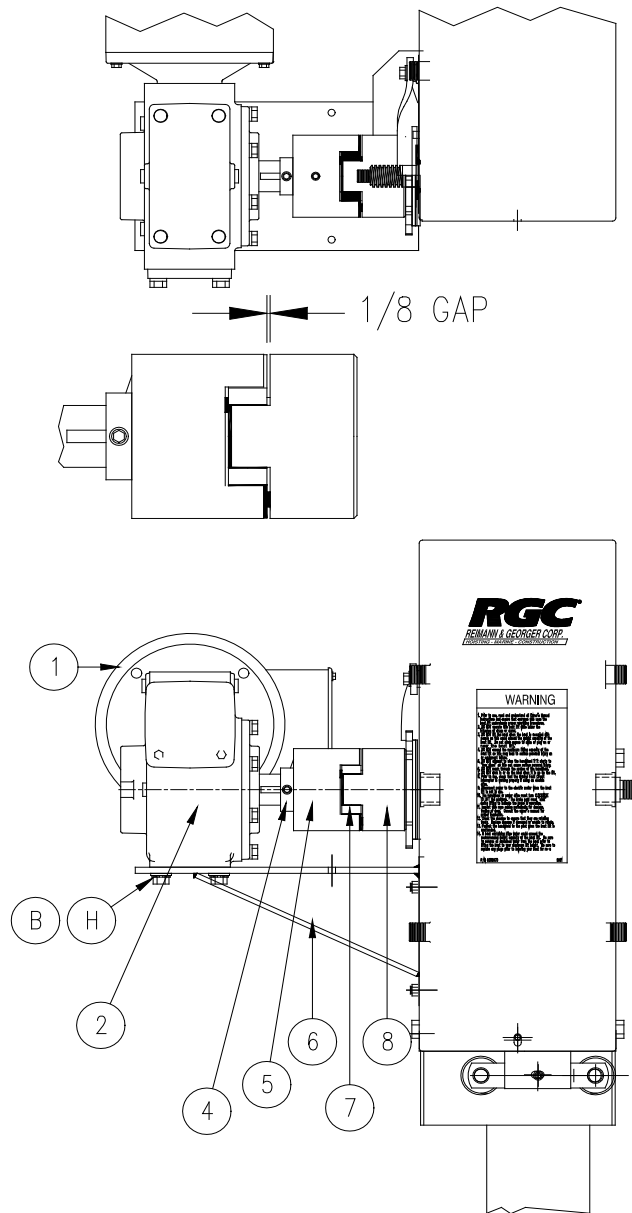

Figure 2-2
1. Refer to Figure 2-2, the centerline of the direct drive coupler must align with the centerline of the winch input shaft coupler. Align if necessary, by loosening the gearbox mounting bolts and positioning the gearbox as required. Re-tighten bolts.